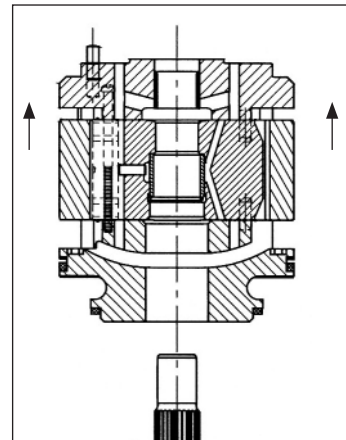

Figure 44
5. Remove cartridge from shaft (Fig. 44).